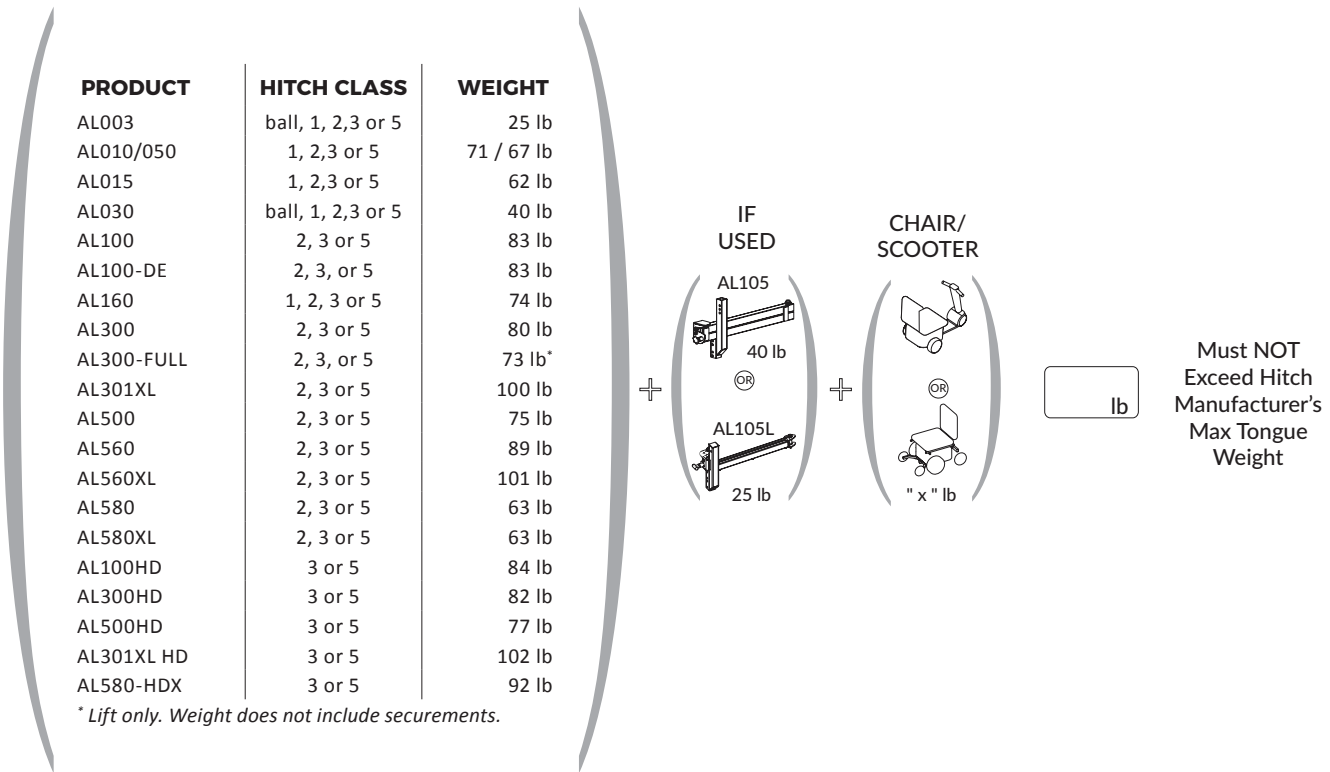

Figure 3-1
- 3. Add the combined weights of the lift, mobility device and, where applicable, the swing-away option. Ensure that the total weight does not exceed the hitch’s recommended tongue weight. Many hitches are available on the market, and all are designed to bear a specific amount of weight. See Figure 3-1.